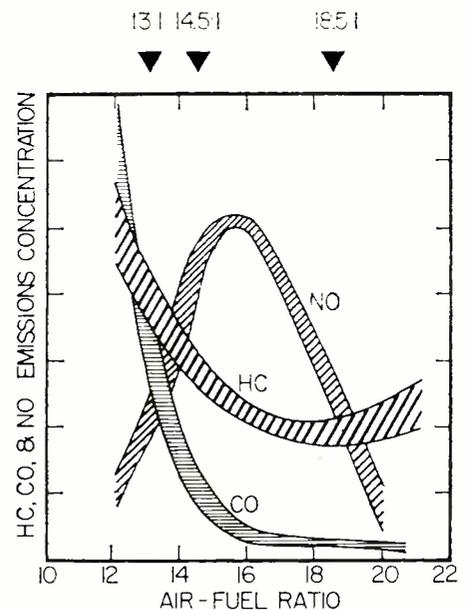

Fig. 4. Three curves showing effects of air-fuel ratios on various exhaust emission contaminants.
One of the key steps in reaching the emission goals will be the development of a device that can accurately control the air-fuel ratio of an automobile engine. In Fig. 4, the hatched curves illustrate the effect of air-fuel ratio on exhaust emission under road operating conditions. The air-fuel ratios are listed along the horizontal scale of the graph. The vertical scale represents the relative concentrations of the three primary contaminants: hydrocarbons (HC), carbon monoxide (CO), and oxides of nitrogen (NO). Automobiles using pre-emission carburetors are operating in the 14.5
From the curves of Fig. 4, we can see that the three contaminants can be significantly reduced by running the engine very lean at approximately 19 to 1 air-fuel ratio. The curves also show that if a reactor is used, (Continued on page 68)